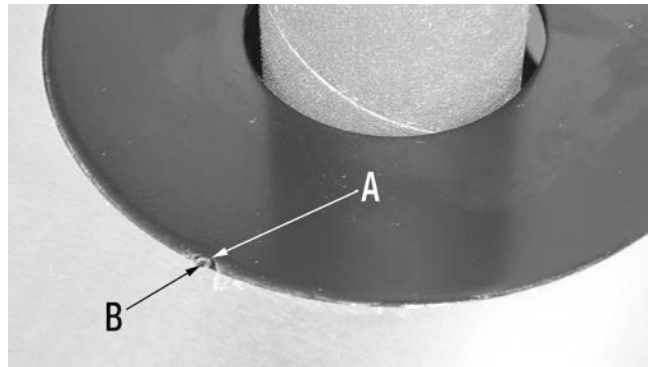

FIGURE 8
1. This machine comes 4 table inserts. When changing spindles, the table insert will need to be changed to the matching size. Each table insert has a notch (A) Fig.8 to fit the alignment pin (B) in the table to ensure that it is properly fitted and installed in the table opening.